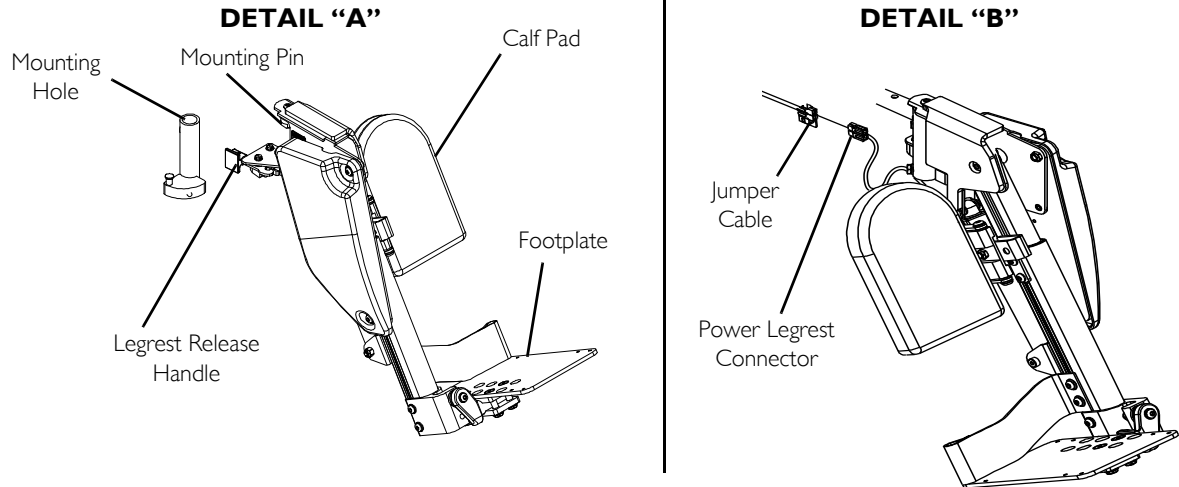

FIGURE 10 Installing/Removing the Power Elevating Legrests
Refer to FIGURE 10 on page 44.
1. Turn power legrest to side (open footplate is perpendicular to wheelchair) (Detail “A” of FIGURE 10).
2. Insert the mounting pin of power legrest into the mounting hole of the seat frame (Detail “A” of FIGURE 10).
5. Connect power legrest connector to jumper cable (Detail “B” of FIGURE 10).